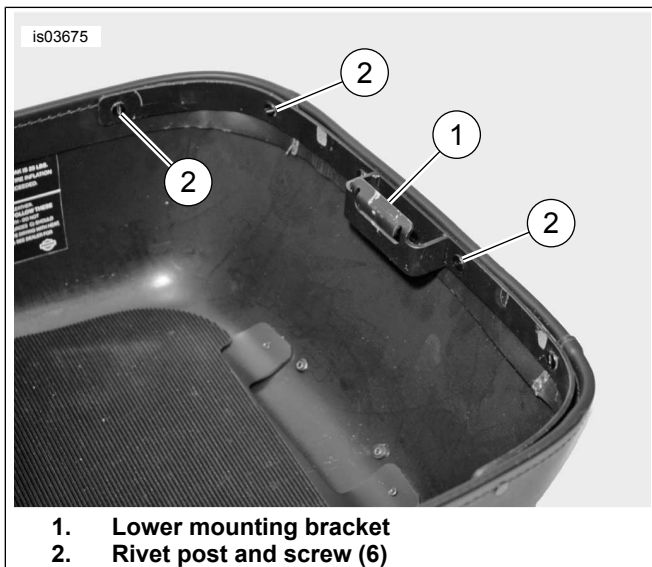

Figure 3. Install Lower Mounting Bracket
1. See Figure 3. Position lower mounting bracket (1) to inside of Tour-Pak base. Lightly clamp the lower mounting bracket to the Tour-Pak base to hold it in place.
3. Install lower mounting bracket using six rivets and screws (2). Tighten screws securely.